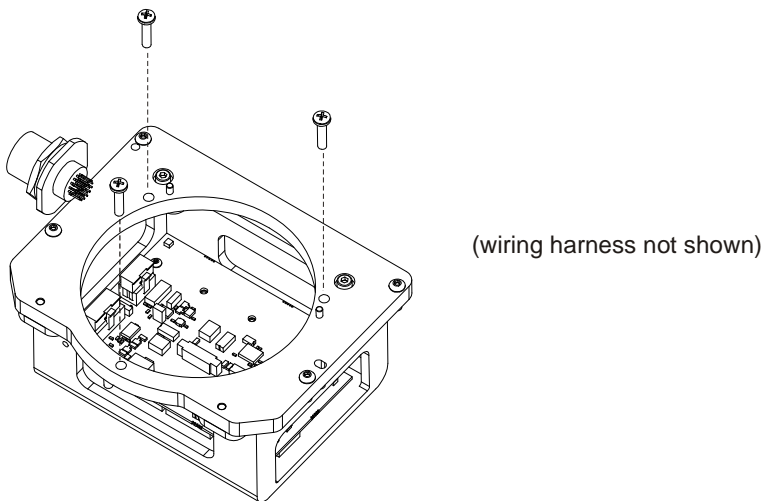

**Figure 49: Remove IMU Mounting Plate and Bracket**
3. Using a 2.5 mm hex bit, unscrew the M4 screws and remove the IMU mounting plate, bracket and cable harness, as shown in *Figure 49*: